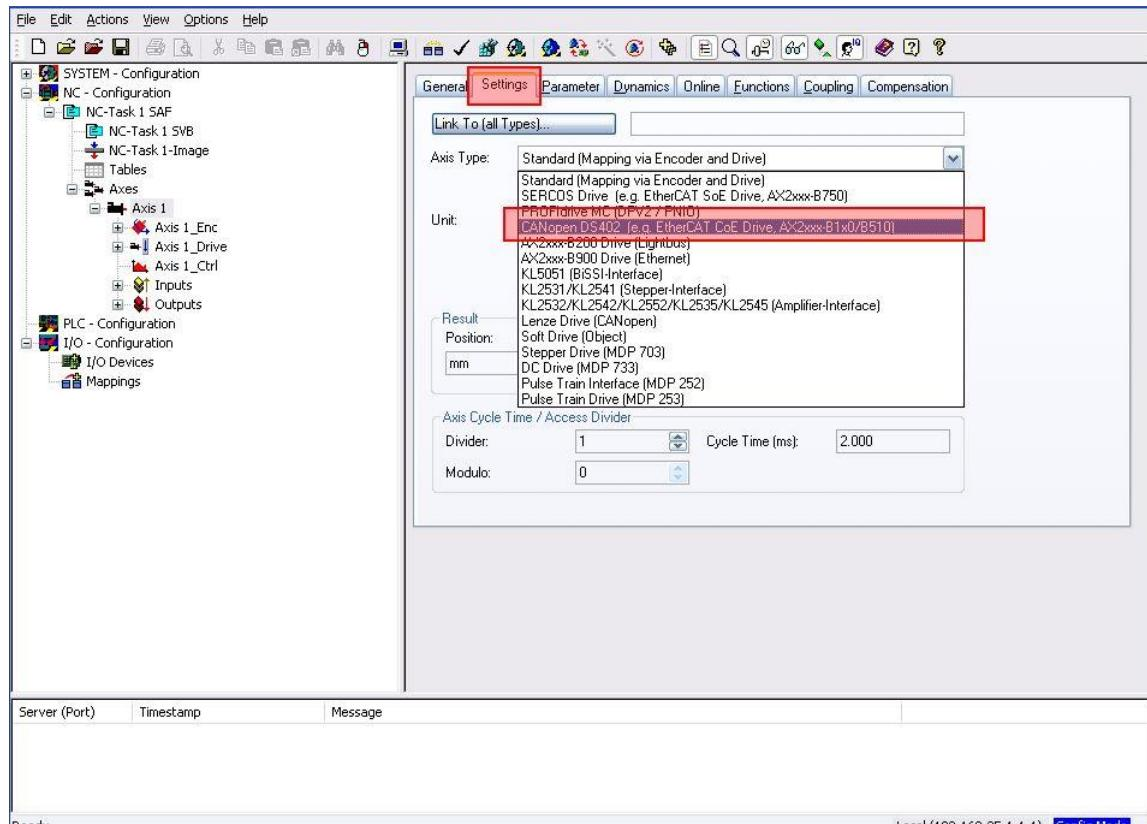

Figure 48: TwinCAT 2 CiA402 axis setup
- TwinCAT 2** : Add NC task ->Add continuous Axis -> set Axis type to “CANopen DS402” (see Figure 48).